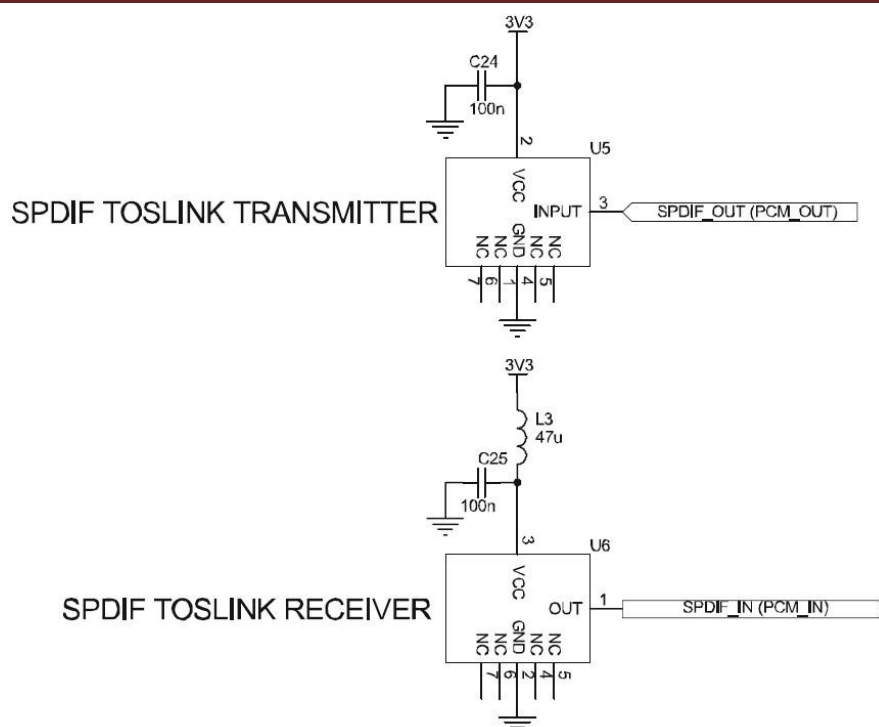

Figure 7: Example Circuit for SPDIF Interface (Optical)
- An optical link that uses Toslink optical components, see Figure 7.